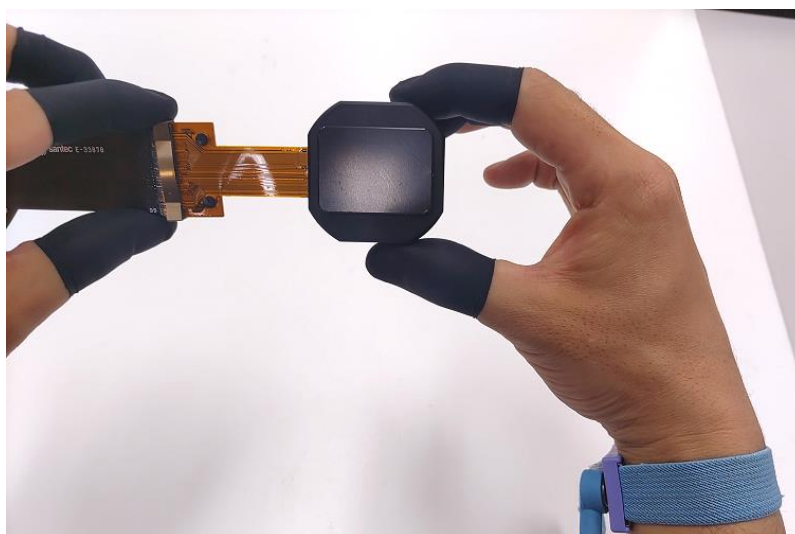

Figure 2: LCOS unit handling.
- If you handle the LCOS unit, please wear a wristband for ESD on an earth grounded table as shown in figure 2.